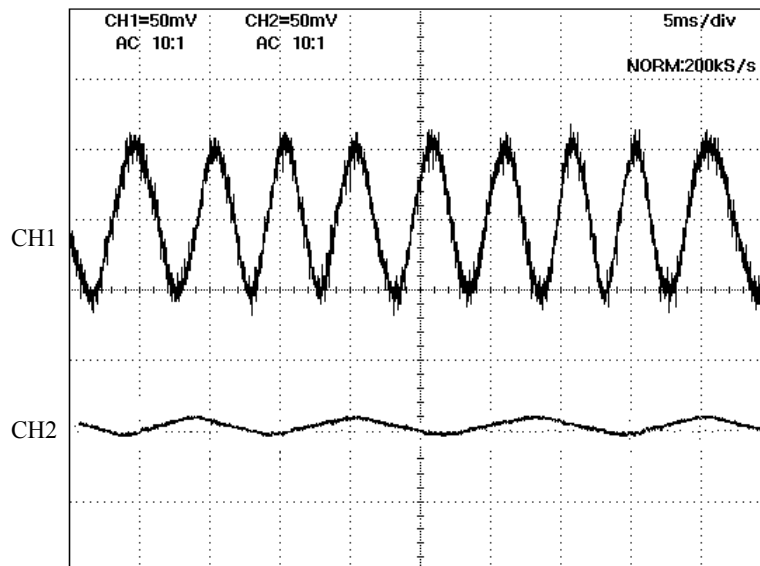

Fig.1
- As shown in Fig. 1, if the amplitude of only either CH1 or CH2 is small, one of the 2 screws (#218) may be loosened, so check for it. If this is not the case, the MR head may malfunction, so replace the MR holder unit and make a readjustment.